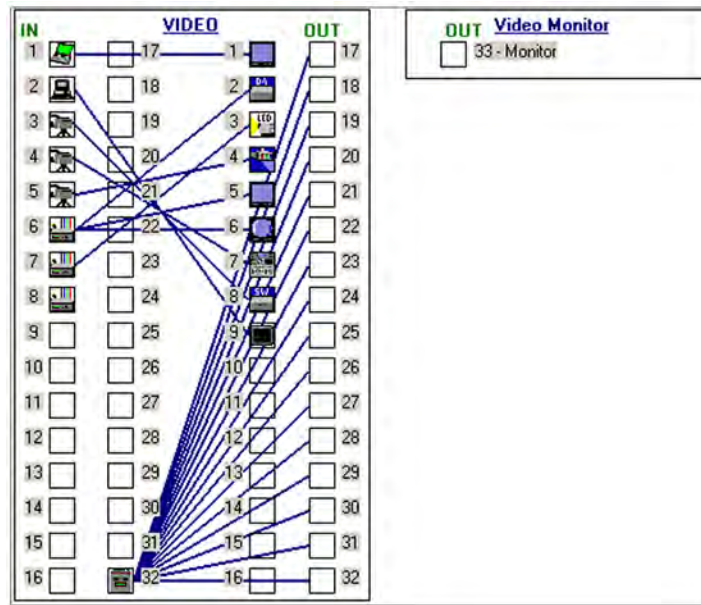

Figure 86. Ties Shown as Lines
- **Icons in I/O boxes** — Displays icons that you place in the I/O boxes in the Matrix window (see figure 86 on the previous page).